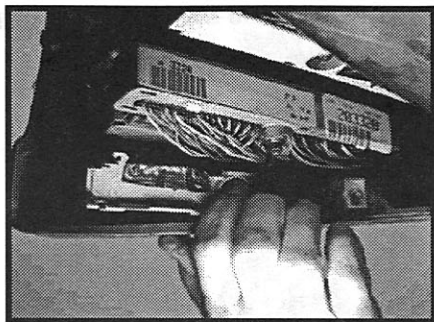

Fig. 10
9. To reinstall the ECU protective cover you will need to remove the factory wiring harness plastic cover, push the clips in and remove it to expose the wires. This is for clearance reasons and has no effect on the wiring (*see Fig. 10*).